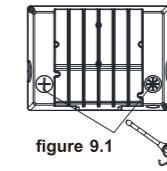

figure 9.1
Step 1: Open the metal plug and plastic plug counterclockwise with a screwdriver (figure 9.1), then slide the switch up and down to adjust the power controller, CCT controller or photocell controller in your demand. (figure 9.2)